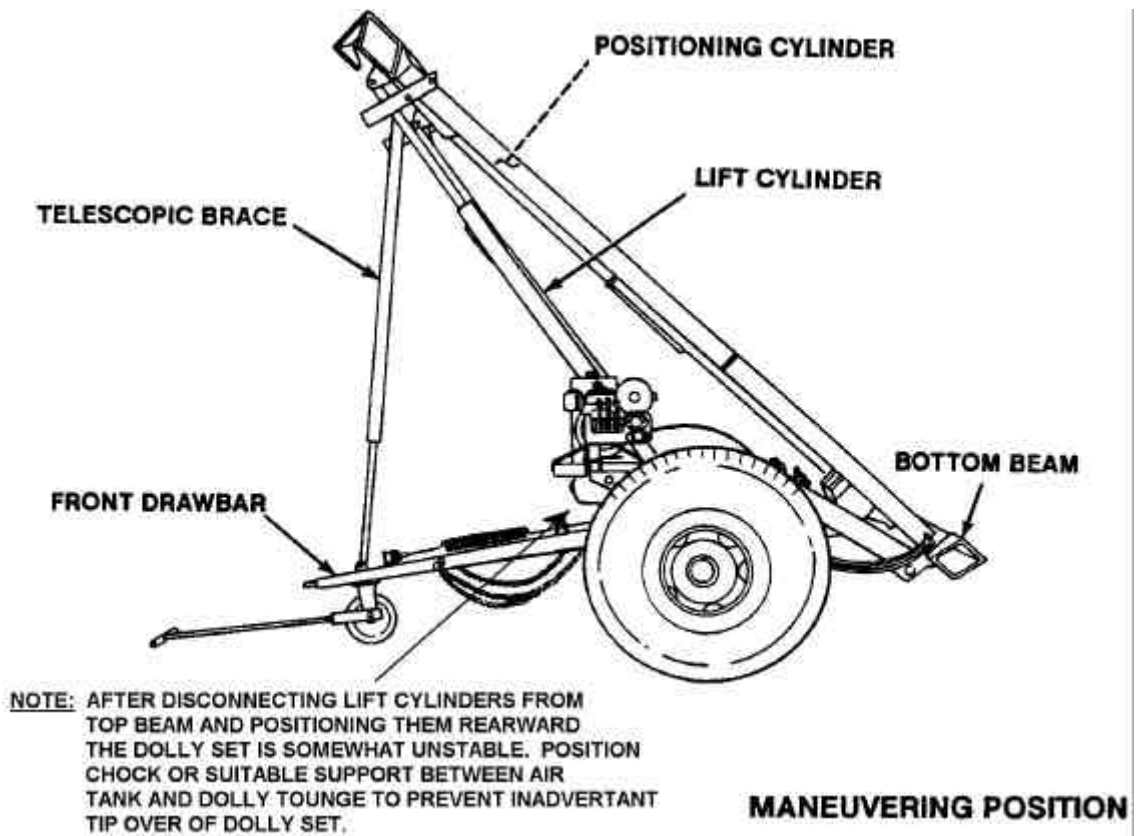

Figure 3
3. Place front and rear dollies into maneuvering position (Figure 3) and separate by a distance of at least 30 ft or side by side. (Refer to Appendix B, Section a).
6. Remove wooden blocks (12”x12” stock) under each end of each bottom beam and place dolly half into maneuvering position (Figure 3) (Refer to Appendix B, Section a).